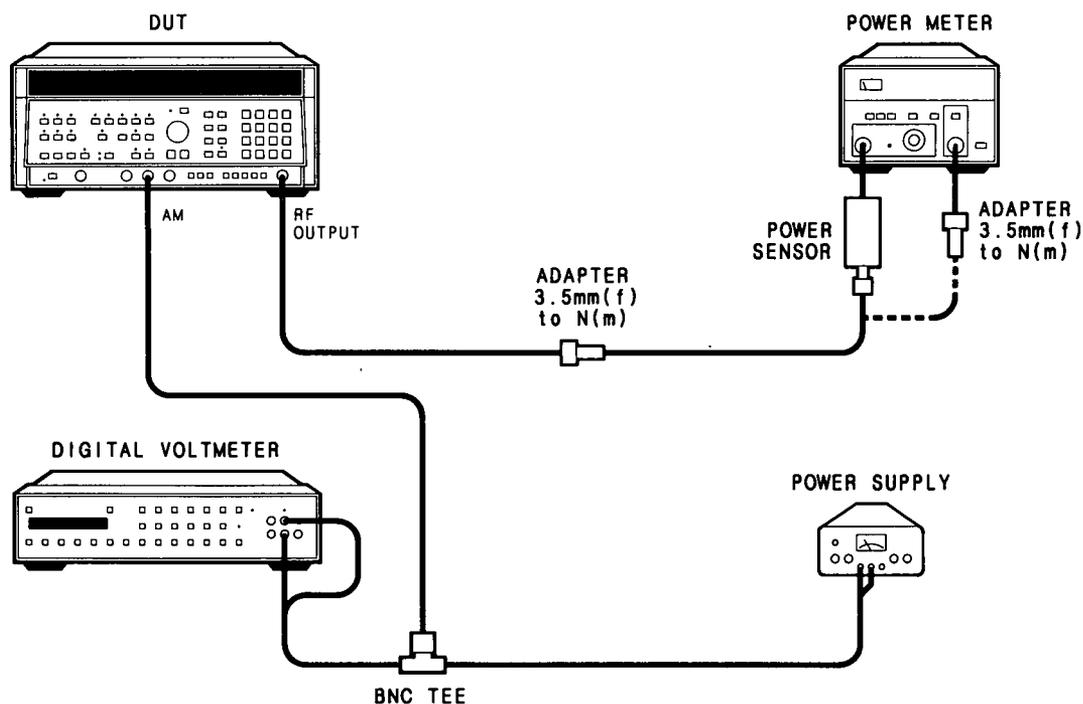

Figure 5-51. AM GAIN Adjustment Test Setup
28. Set up the following equipment as shown in Figure 5-51 with the power supply set to 0 Vdc. Allow the equipment to warm up for at least 30 minutes.